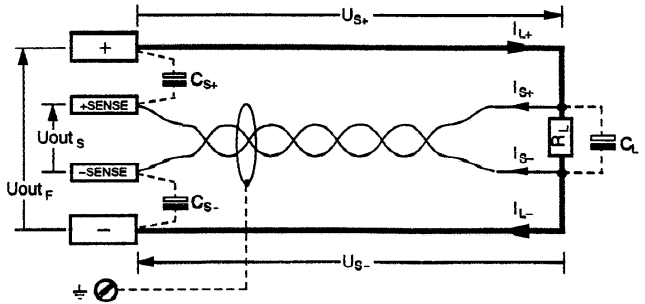

Figure 2.3 Load connection with remote sensing
- For remote sensing, the parameters and limit values shown in figure 2.3 are applicable.
- By one capacitor each (C_{S+}, C_{S-}) between SENSE and output pin (see figure 2.3), you can counteract to the regulator oscillation.